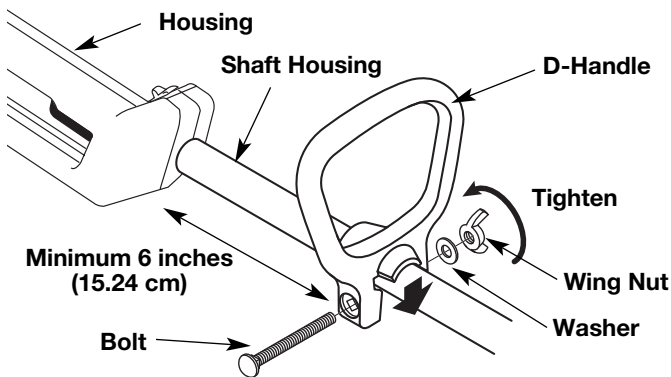

Fig. 1
1. Push the D-handle down onto the shaft housing and push it on the boom (Fig. 1). The squared bolt hole in the handle is to the right.